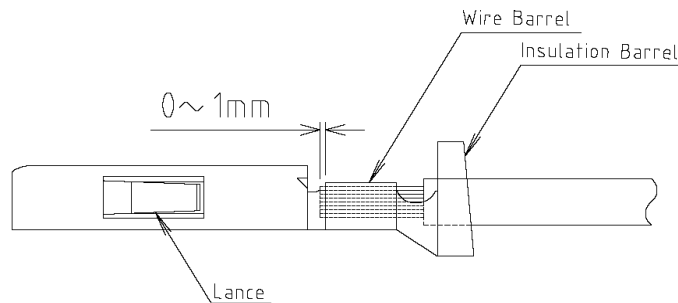

FIGURE 2-28
- c. Refer to **Figure 2-28**. Insert the stripped wire and the pin 350551-1 into the crimping tool 91500-1 and crimp them accordingly.
- e. Refer to **Figure 2-28** and **2-29**. Push the cable into the cap until the lances of the pin get caught by the cap.